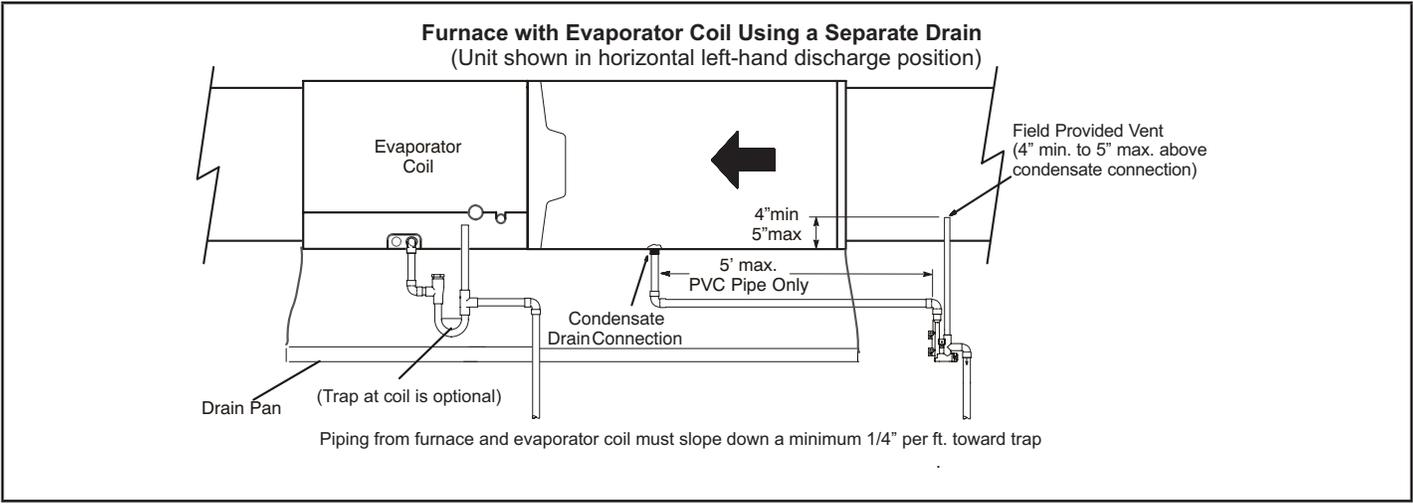

**FIGURE 49**
- 5 - "FIGURE 48" and "FIGURE 50" show the furnace and evaporator coil using a separate drain. If necessary the condensate line from the furnace and evaporator coil can drain together. See "FIGURE 49", "FIGURE 51" and "FIGURE 52".